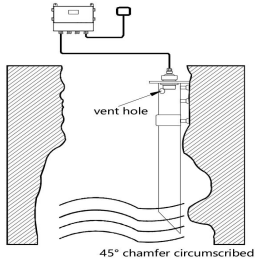

Figure 2
- 4) If the wall of the pool or tank is uneven, there are other obstacles, the water surface fluctuates violently, or there is foam or other impurities on the water surface, a waveguide tube must be installed for the instrument. Alternatively, a tube can be run to the bottom of the pool or tank, with a diameter of  $\geq 110\text{mm}$ . A gap should be left at the bottom of the tube to keep the liquid level inside the extension tube equal to that in the pool or tank. Several small holes should be drilled on the extension tube near the probe installation position to allow air inside the tube to communicate with that outside the tube( Figure 2).